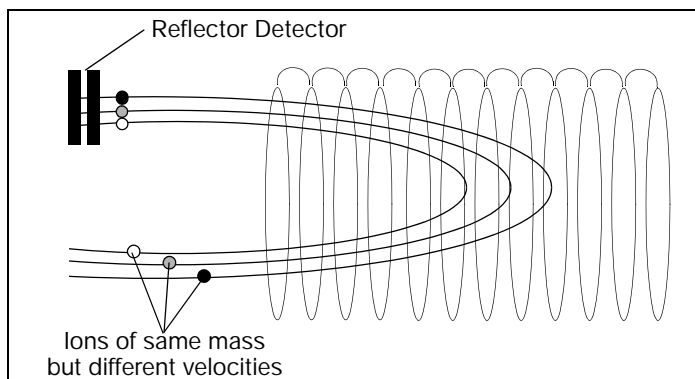

Figure 1-9 Representation of how a two-stage mirror helps velocity-focus ions
- **Reflector mirror** – Used only in MS-Reflector and MS/MS modes, this two-stage electrostatic mirror (Figure 1-9) consists of a series of plates, which reflect ions back toward the reflector detector. The mirror improves mass accuracy and resolution by: